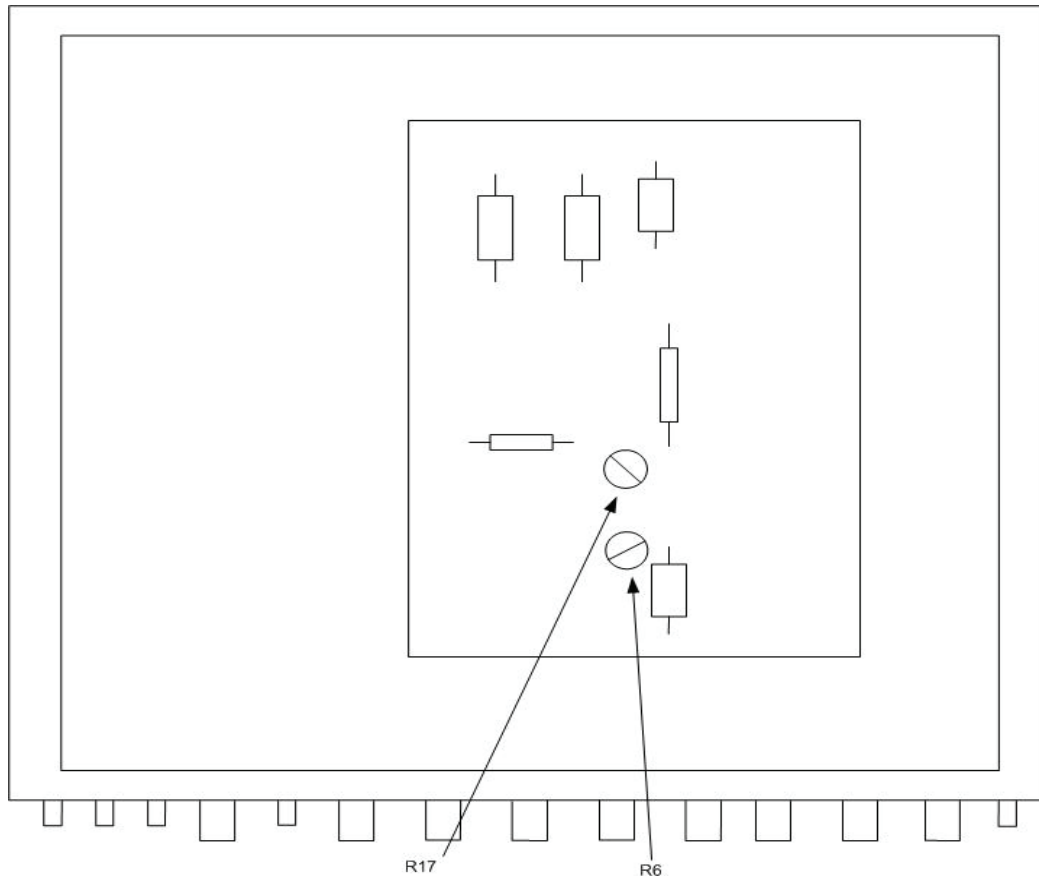

Figure 2. Model 1020A-Y - adjustment locations (top view).
(1) Adjust R6 (fig. 2) until frequency counter indicates 10 kHz (R).
(2) If required, readjust R6 for best in-tolerance condition while performing **a** (2) through (6) above.
- (1) Connect oscilloscope to TI \square \square OUT.
- (2) Set **RATE** control fully cw, and **X1-X10-X100** switch to **X100**. Oscilloscope will indicate a square wave.
- (3) Set **FUNCTION** switch to **INT** \square and **PULSE WIDTH** control fully ccw and **X1-X10-X200-X1000** switch to **X1**. Oscilloscope will indicate a pulse width (pip) less than 0.2 μ s.
- (4) Set **PULSE WIDTH** control fully cw. Oscilloscope will indicate a pulse width 2 μ s or more.
- (5) Set **PULSE WIDTH X1-X10-X200-X1000** switch to **X10**. Oscilloscope will indicate a pulse width 20 μ s or more.
- (6) Set **PULSE WIDTH X1-X10-X200-X1000** switch to **X200** and **RATE X1-X10-X100** switch to **X1**. Oscilloscope will indicate a pulse width 400 μ s or more.
- (7) Set **PULSE WIDTH X1-X10-X200-X1000** switch to **X1000**. Oscilloscope will indicate a pulse width 2,000 μ s or more.
- (8) Disconnect cable from TI \square \square OUT and connect to **FM OUT**.
(9) Turn **FM DEV AMPLITUDE** control fully cw and **FUNCTION** switch to **FM**. If oscilloscope does not indicate a symmetrical saw tooth wave (no flat bottom), perform **b** below.
b. Adjustments. Adjust R17 (fig. 2) for a saw tooth wave with no flat bottom (R).